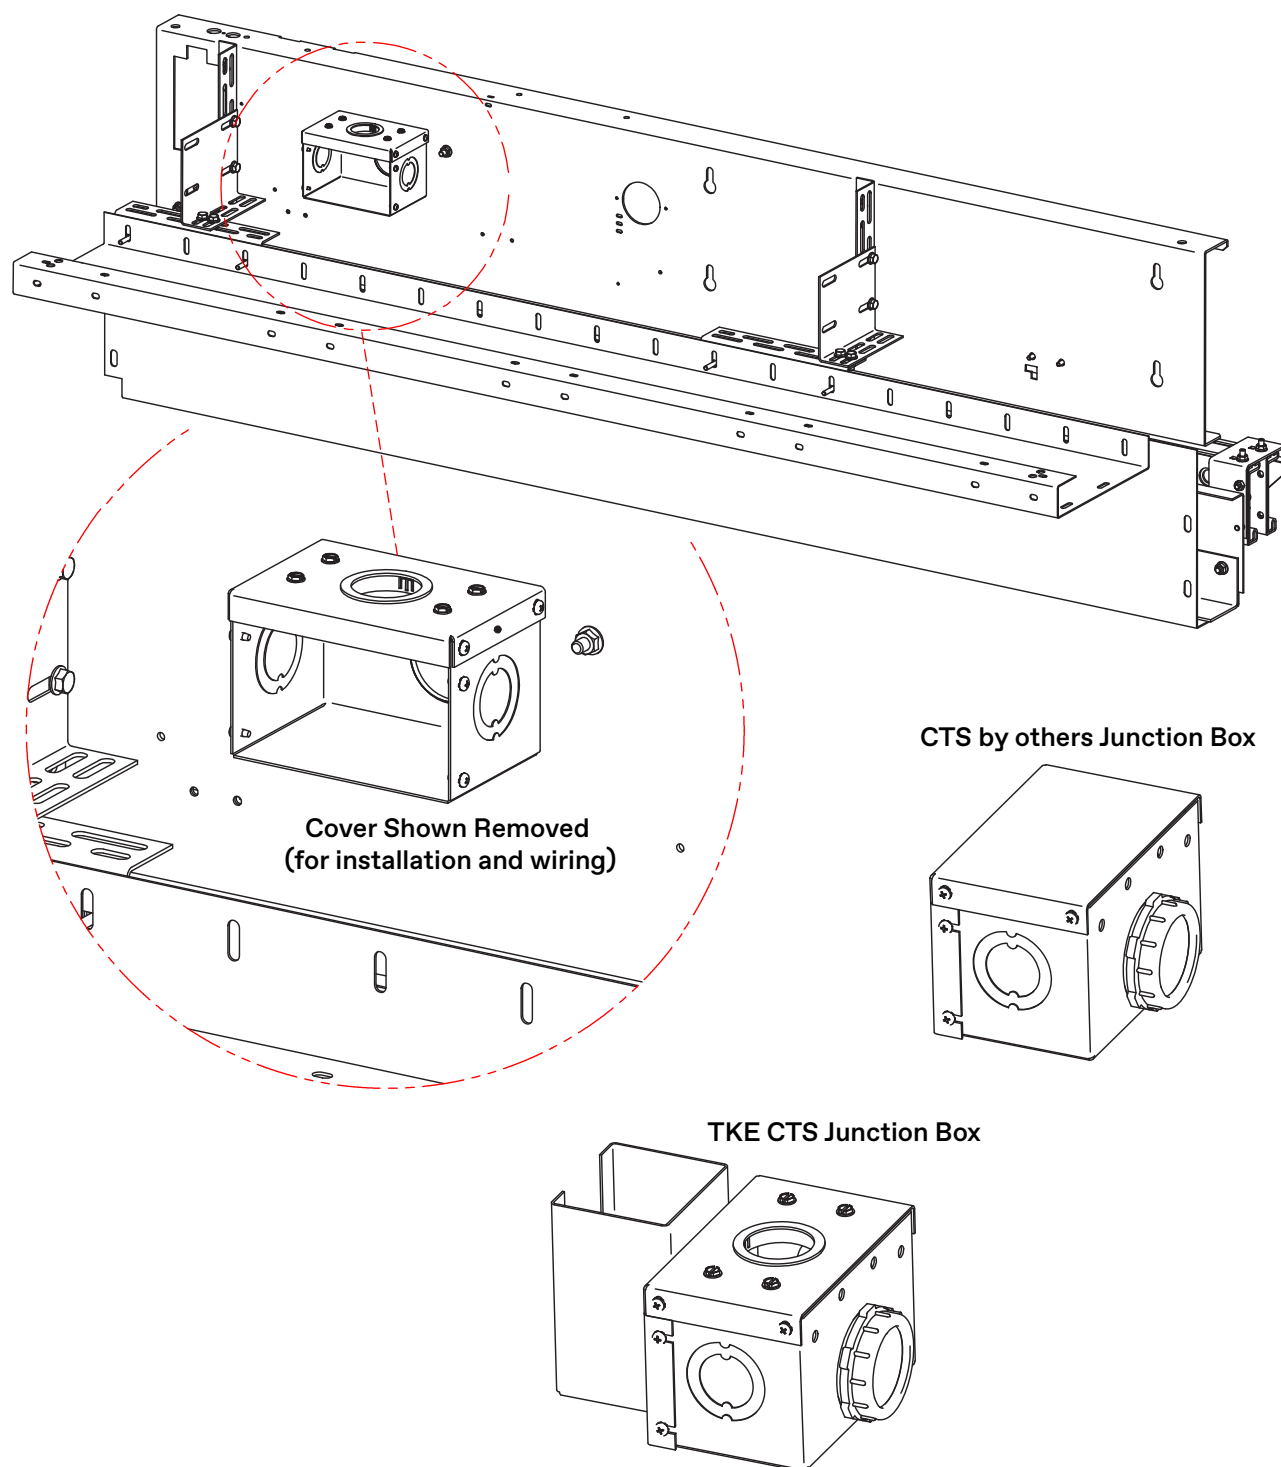

Figure 36 - Junction Box Installation
6. Install the junction box. See Figure 36.